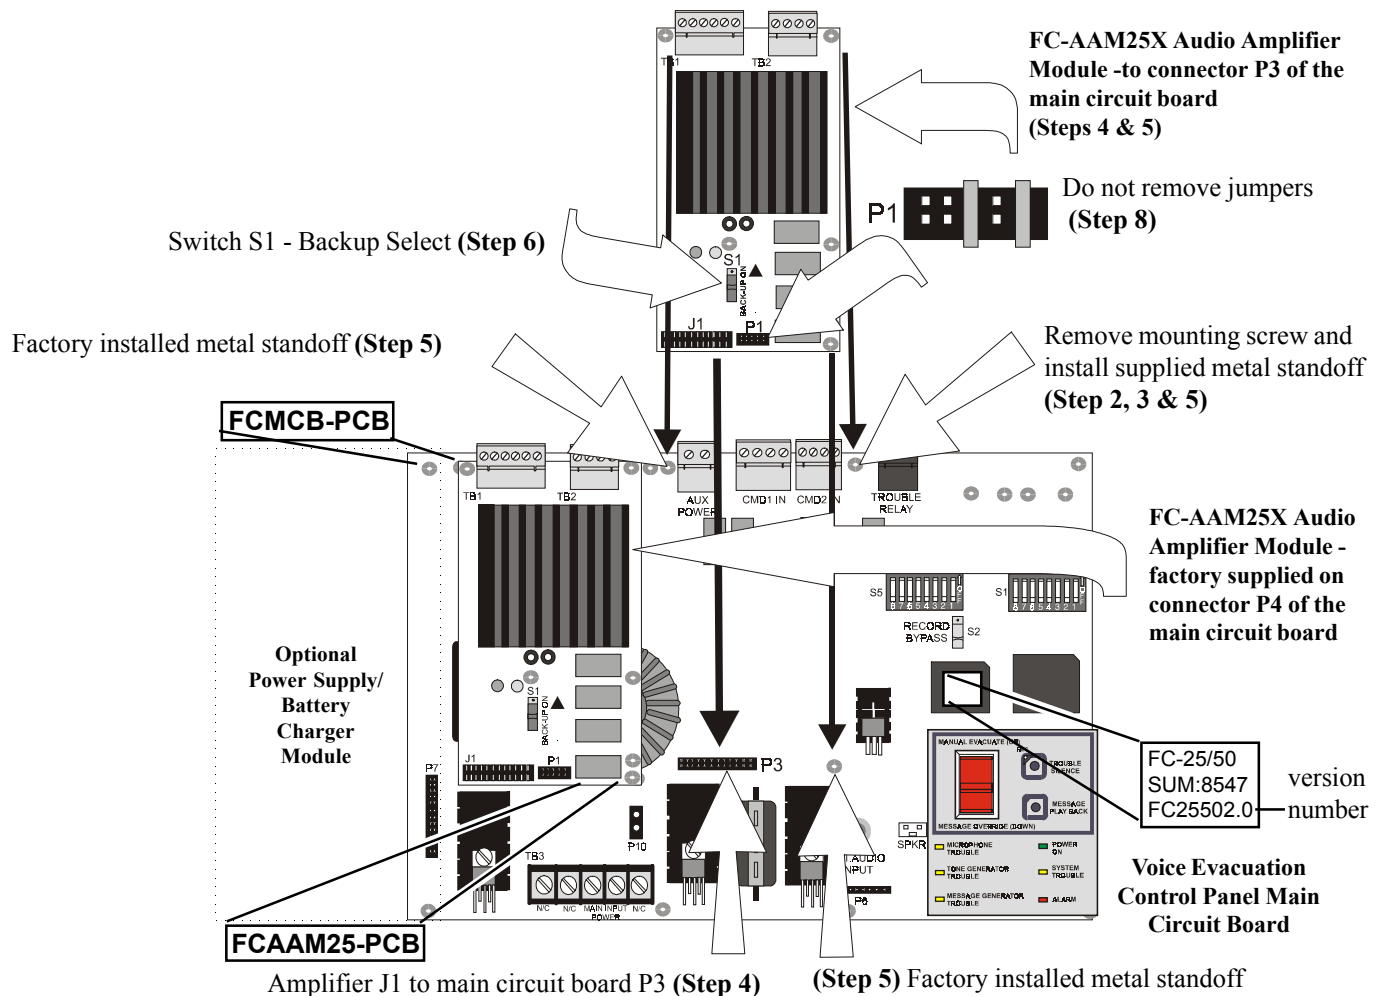

Figure 1: Main Circuit Board
**FC-AAM25X Audio Amplifier Module installation on main circuit board (see Figure 1)**
- (1) Position switch S1 in the 'down' position for normal operation. This adds an additional 25 watts increasing total system output to 50 watts.
- (2) Position switch S1 in the 'up' or 'Backup On' position to configure the amplifier as a backup in the event the primary amplifier fails to operate.
8. Make certain the factory installed jumpers are in place on connector P1 of the Audio Amplifier Module. Refer to Figure 1.